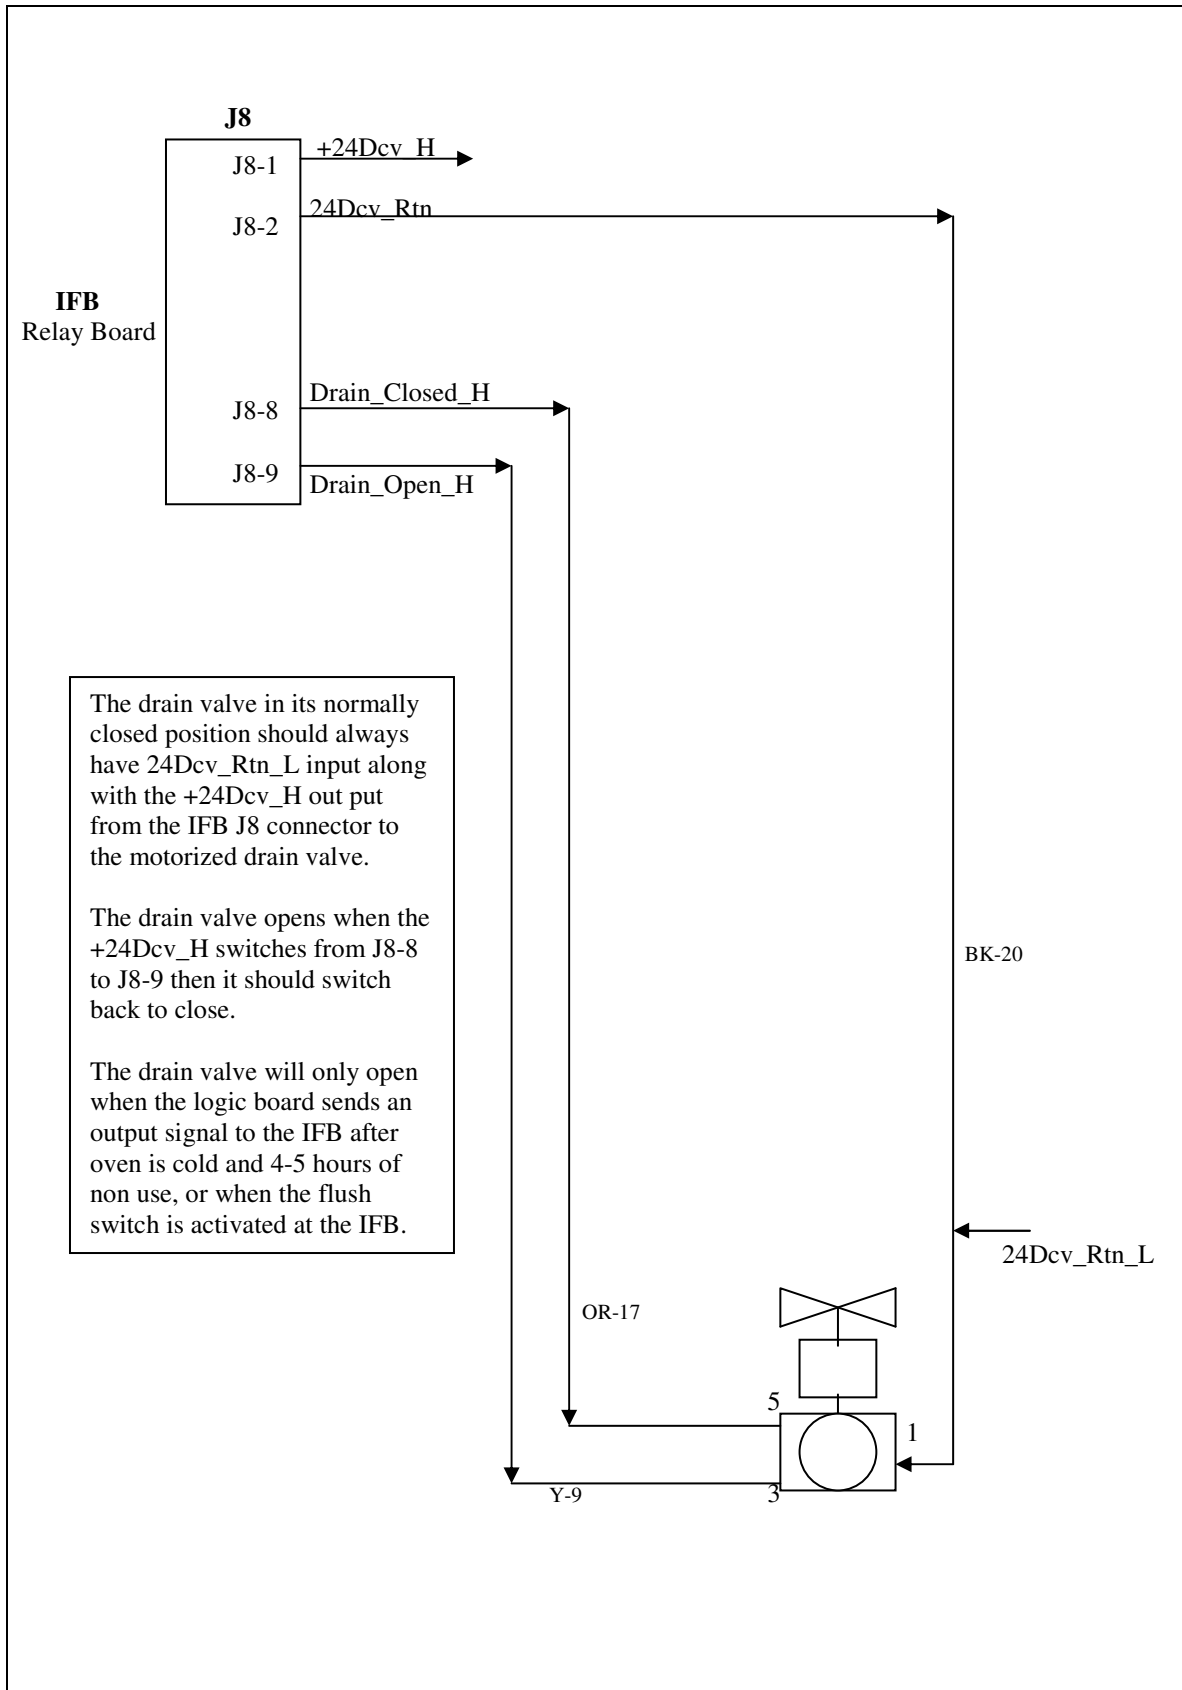

FIGURE 10
4. See Troubleshooting (FIGURE 10).